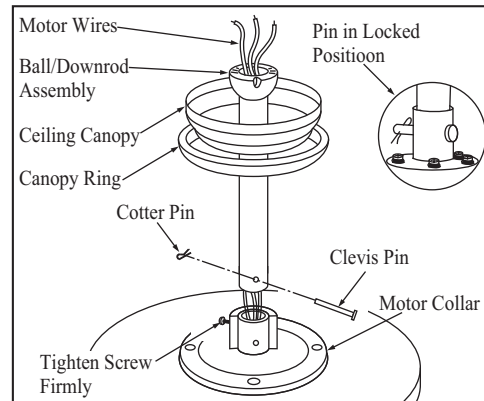

Figure 7
3. Route wires exiting from the top of the fan motor through the canopy ring. Make sure the slot openings are on top. Route the wires through the canopy and then through the ball/downrod assembly (Figure 7).
5. Align the holes at the bottom of the downrod with the holes in the coupling on top of the motor housing (Figure 7). Carefully insert the clevis pin through the holes in the collar and downrod. Be careful not to jam the clevis pin against the wiring inside the downrod. Insert the cotter pin through the hole near the end of the clevis pin until it snaps into its locked position, as noted in the circle inset of Fig. 7.
6. Tighten two set screws on top of the fan motor firmly. (Figure 7)